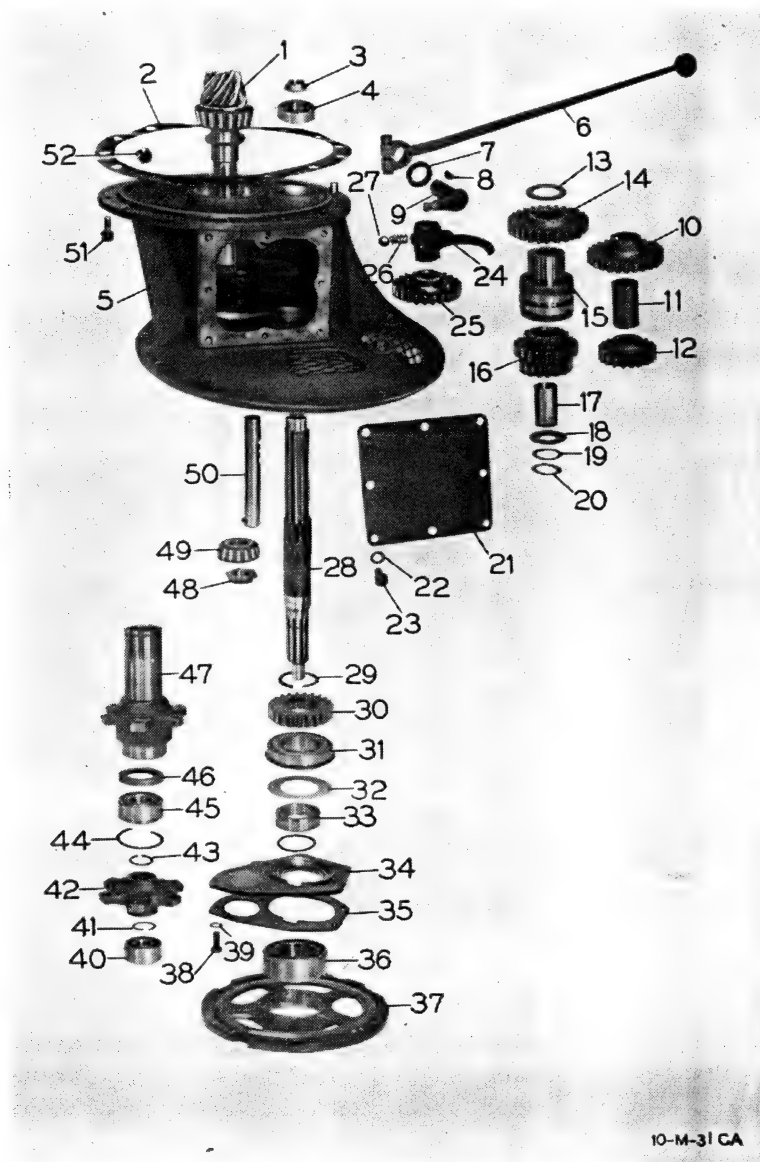

Fig. 137
(See Fig. 137)
- E. Pinion shaft high and low shift hub (15)
- F. Pinion shaft low range gear (14)
4. Remove pinion shaft front bearing from transmission case. Ref. 49, Fig. 137.
TRANSMISSION REASSEMBLY (See Fig. 137)
(See Fig. 137 for References)